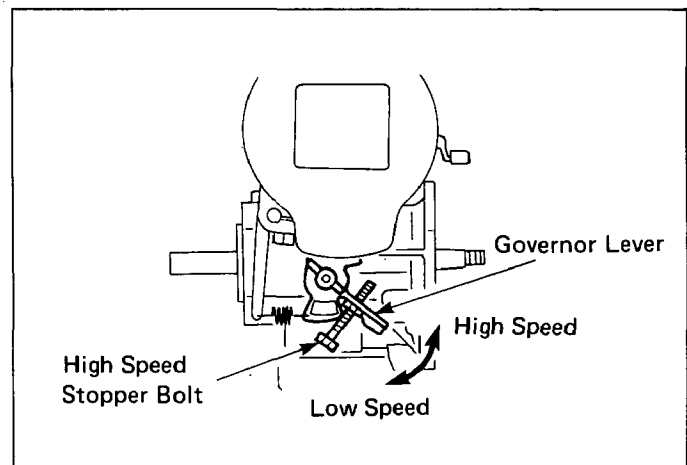

Fig. 21
2) Maximum Speed Adjustment (See Fig. 21.)